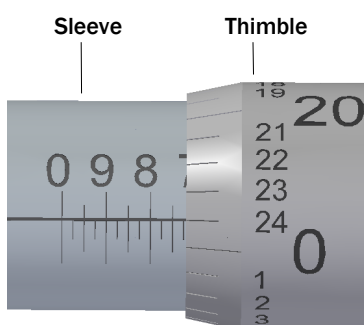

Fig.13A
1. Fig.13A, If the 8 (.800") line is showing and the 7 (.700") line is not then the measurement is greater then $>.700"$.